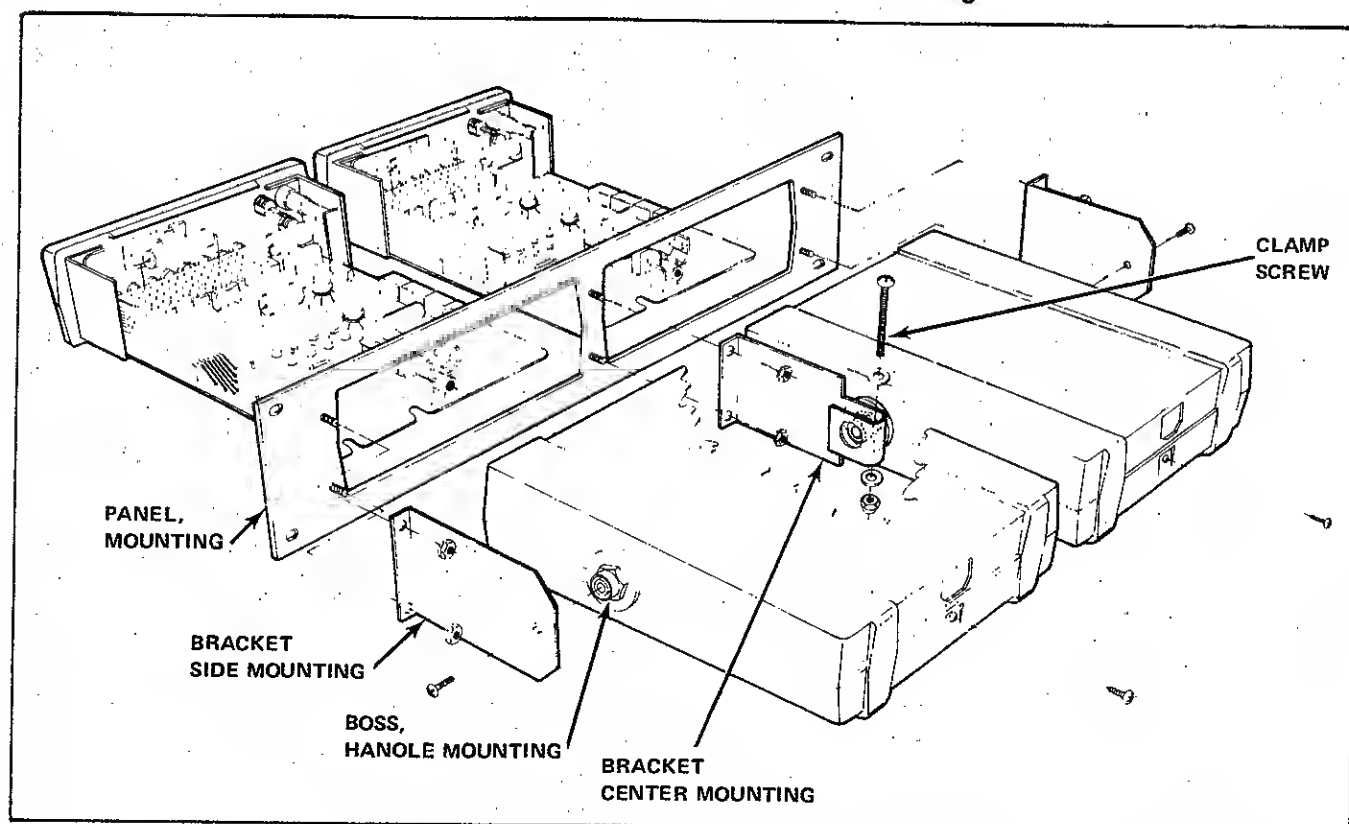

Figure 600-5. Rack Mounting Kit, Side-By-Side Mounting
1. Remove the carrying handles from both instruments by removing the handle disc decals and the handle mounting screws (Figure 600-5).
3. Install the center mounting bracket, as shown in Figure 600-5, and secure it to the mounting panel using the nuts provided.